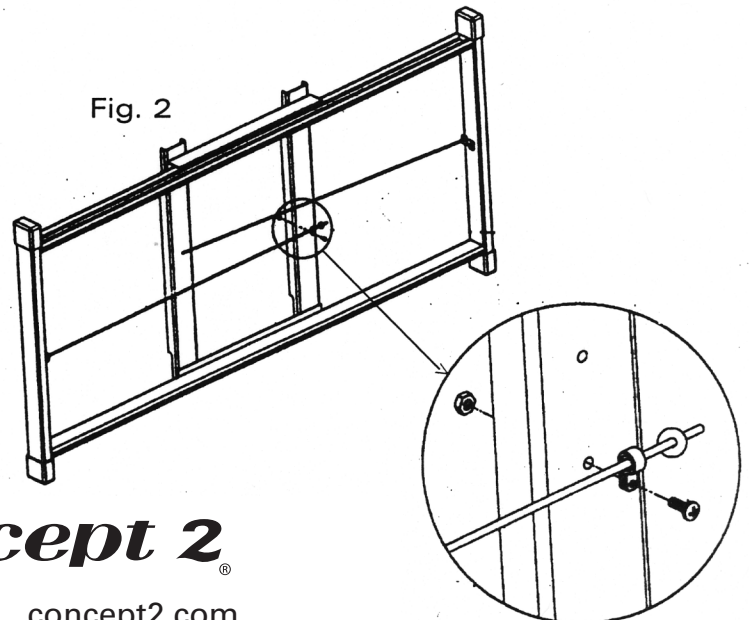

Fig. 2
- 5) Tie a knot in one end of the bungee cords and thread them through the Plastic Strain Reliefs. See Fig. 2.
- 6) Attach the Plastic Strain Reliefs to the Carriage with the screws and nuts. See Fig. 2.